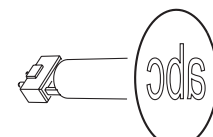
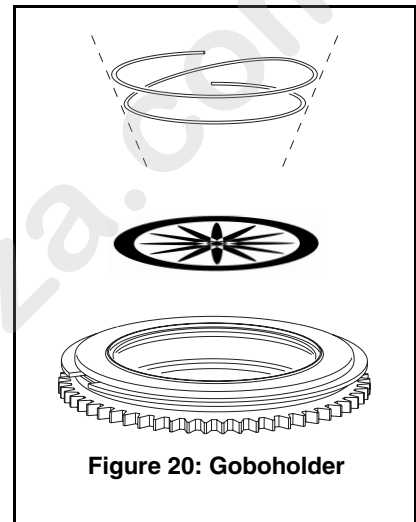

Figure 17. Correct gobo orientation
Figure 20: Goboholder
The orientations shown in Figure 17 are correct in most cases, but consult your Martin dealer or gobo supplier if you are in any doubt about the orientation of a specific gobo type.
Correct gobo orientation is critical. Read the guidelines in Figure 17 carefully before installing a gobo.
7. See Figure 20. With a small screwdriver or similar, unhook the end of the gobo spring furthest from the gobo and pull out the spring. Drop the gobo out of the holder onto a clean, soft surface.
8. Insert the new gobo in the holder with the side that must face towards the lamp facing upwards, towards the spring (see Figure 20 and Figure 17).
9. Insert the spring with the narrow end against the gobo, as shown in Figure 20. To identify the narrow end, press the spring flat: the narrow end is on the inside. Push the wide end of the spring in under the lip of the holder.